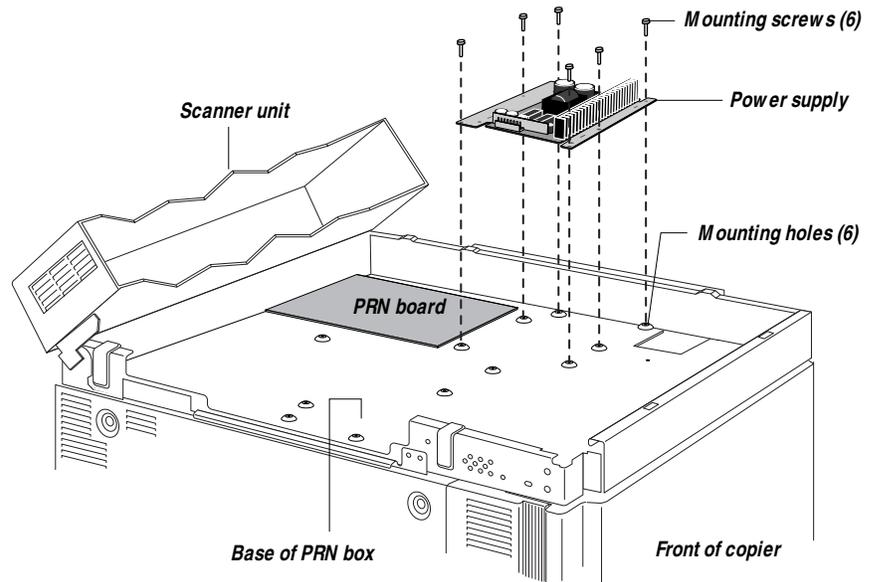

Figure 2-7 Installing the power supply
3. **Place the power supply on the mounting holes at the base of the PRN box (see Figure 2-7 on page 2-9).**